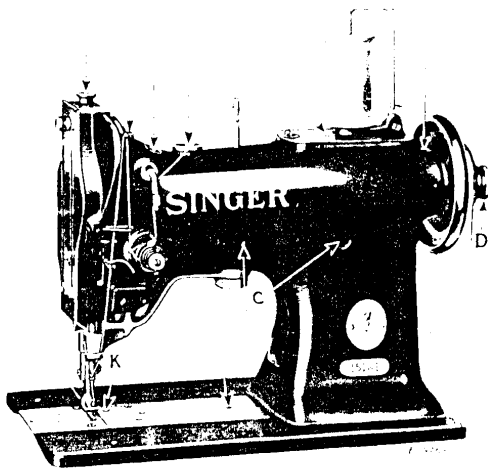
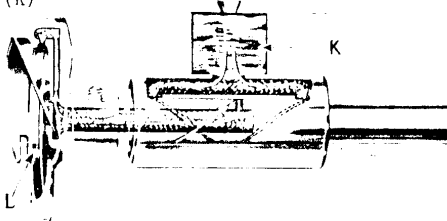

Fig. 2. Oiling Points at Front of Machine
Fig. 3. X-ray View of Hook Lubricating System (Oil flows in direction indicated by arrows)
Before starting the machine, fill the oil reservoir (K, Figs. 2 and 3) through the oil hole in the bed of the machine. This reservoir lubricates the front hook shaft bearing and sewing hook raceway through the oiling system shown in Fig. 3.
When starting a new machine, it is advisable each morning, for about a week, to apply a few drops of oil directly to the hook raceway (L, Fig. 3). ALWAYS KEEP A SUPPLY OF OIL IN THE RESERVOIR (K)
Oil should also be applied to each of the places designated by arrows in Figs. 2, 4, 5 and 6. When the machine is in continuous use, it should be oiled at least twice each day.
The length of stitch is regulated by the feed regulating spindle head (D, Fig. 2) at the right of the balance wheel.